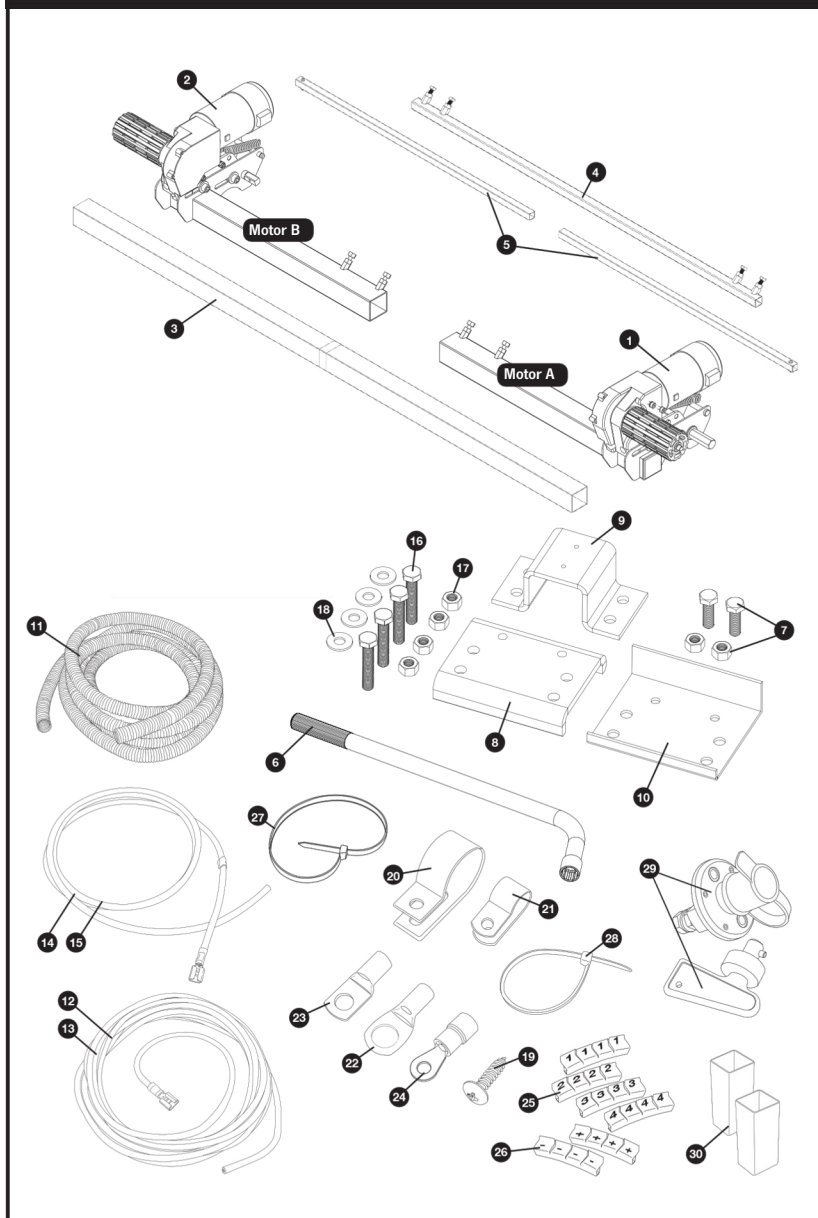

Fig. 1
Loosely assemble motor framework side (1), motor framework side (2) and main cross bar (3) (see Fig.1). The nuts (Fig.1.B) for cross bar fixing must be no more than finger-tight at this stage. Assemble the cross actuation bar by sliding the actuation bars (5) into the actuation centre bar (4) and mount to the motor assembly rods (Fig.1.A). Fix the actuation bars to these rods using the provided nyloc nut and bolt (pre attached to actuation bars). The nuts (Fig.1.C) for fixing must be no more than fingertight at this stage.
Place the assembly (Fig.1) loosely under the caravan. In principle, the unit should be fitted in front
Once satisfied with mover spacing, fully tighten the four nyloc nuts (17) on both clamping assemblies (Fig.10) to a torque setting of 40 ft lbs/55Nm, then the bolts (Fig.1.B and Fig.1.C) on each motor side framework to a torque setting of 9ft lbs/12Nm. Re-check the distance of 20mm from the rollers to the tyres and if necessary, loosen the bolts and re-adjust the position of the assembly. Once satisfied with the position of the assembly, fit and tighten the Chassis Stop Nuts & Bolts (7) in each of the Classic Clamp Upper Plates (8) (see Fig.10). Tighten to a torque setting of 40 ft lbs/55Nm. The Stop Bolts grip the lip of the chassis and help prevent the mover from sliding along the chassis.